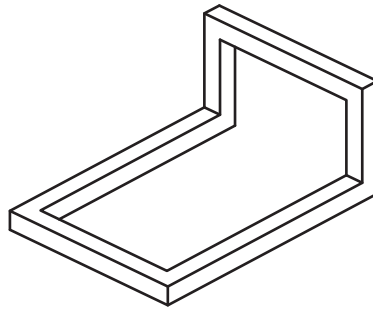

Fig. 44-9
1. Create the composite solid shown in Fig. 44-9.